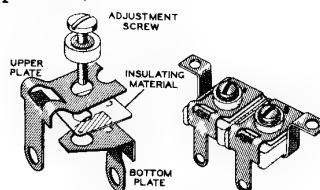

Figure 6H
The dual TRIMMER CAPACITOR is constructed as shown in Figure 6H. Two metal plates, insulated by a thin sheet of transparent mica material, are mounted on each trimmer capacitor. The bottom plate is permanently fastened to the porcelain base. The top plate is constructed of spring-like material that allows it to rise from the lower plate, as the screw is turned out. The screw itself is insulated from touching either plate. Varying the space between the two plates of this trimmer capacitor, changes the amount of capacity of the trimmer capacitor from 3 μ fd to 30 μ fd.
- () Mount the 2-section trimmer capacitor near the antenna terminals in the following manner so that the upper plates (see Figure 6H) are in the position of lugs 1 and 3. Use 6-32 x 3/8" screws and 6-32 nuts. Mount a #6 solder lug under the nut that holds the mounting foot nearest tube socket V1. Mount two #6 solder lugs, one below the chassis and one above the chassis, at the other mounting foot of the trimmer capacitor.